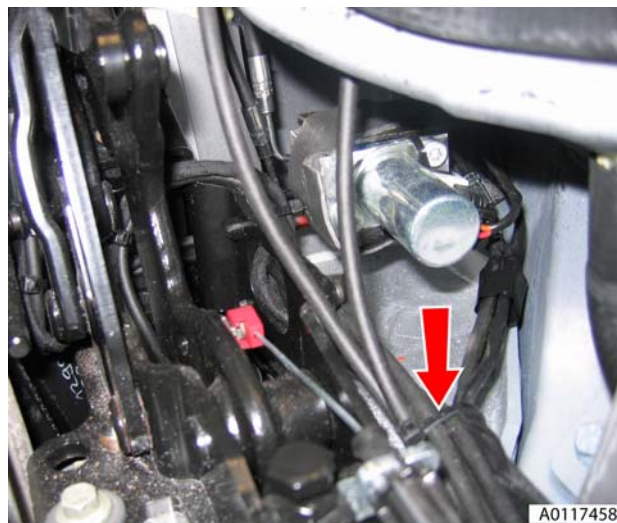

Figure 8
14. Cut cable tie securing valve to bracket (see Figure 8).